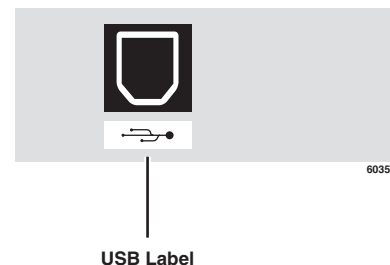

Figure 11-11 USB Label
4. Stick the USB label onto the base, just below the modular cord port (see Figure 11-11).